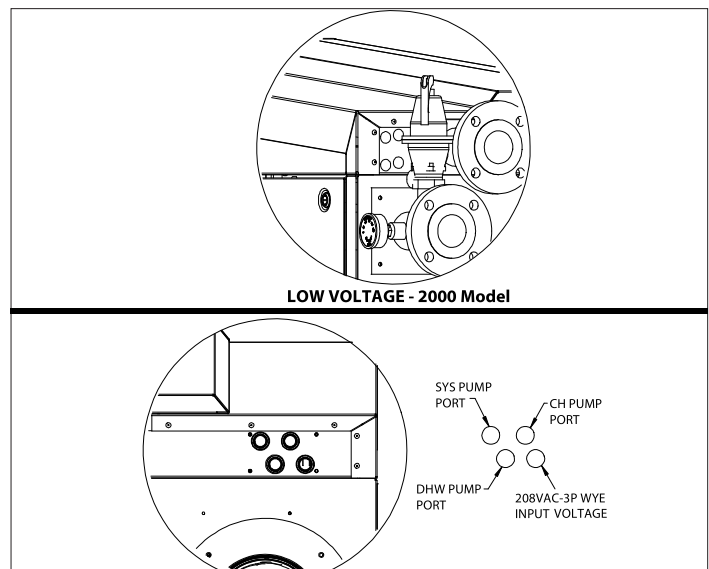

Figure 35 - Knockout Locations - 2000 Model Only
1. All high voltage cables should enter the boiler through the provided knock out holes as shown in Figure 35.
1. All low voltage cables should enter the electrical junction box through the provided knock out holes as shown in Figure 35.